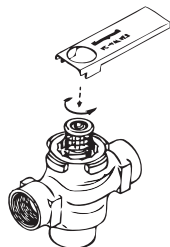

Fig. 5. Installing Cartridge
2. After soldering and valve has cooled, remove cartridge assembly from plastic bag, insert into the valve body and tighten down with enclosed wrench until it bottoms out. **DO NOT OVER TIGHTEN** (maximum torque is 40 in-lb). See Figure 5.
3. Remove valve actuator by pressing up on the latch mechanism located directly below the red manual open lever with thumb (See Figure 5). Simultaneously press the actuator down towards the valve body with moderate hand force and turn the actuator counter-clockwise by 1/8 turn (45°). Lift actuator off the valve body.